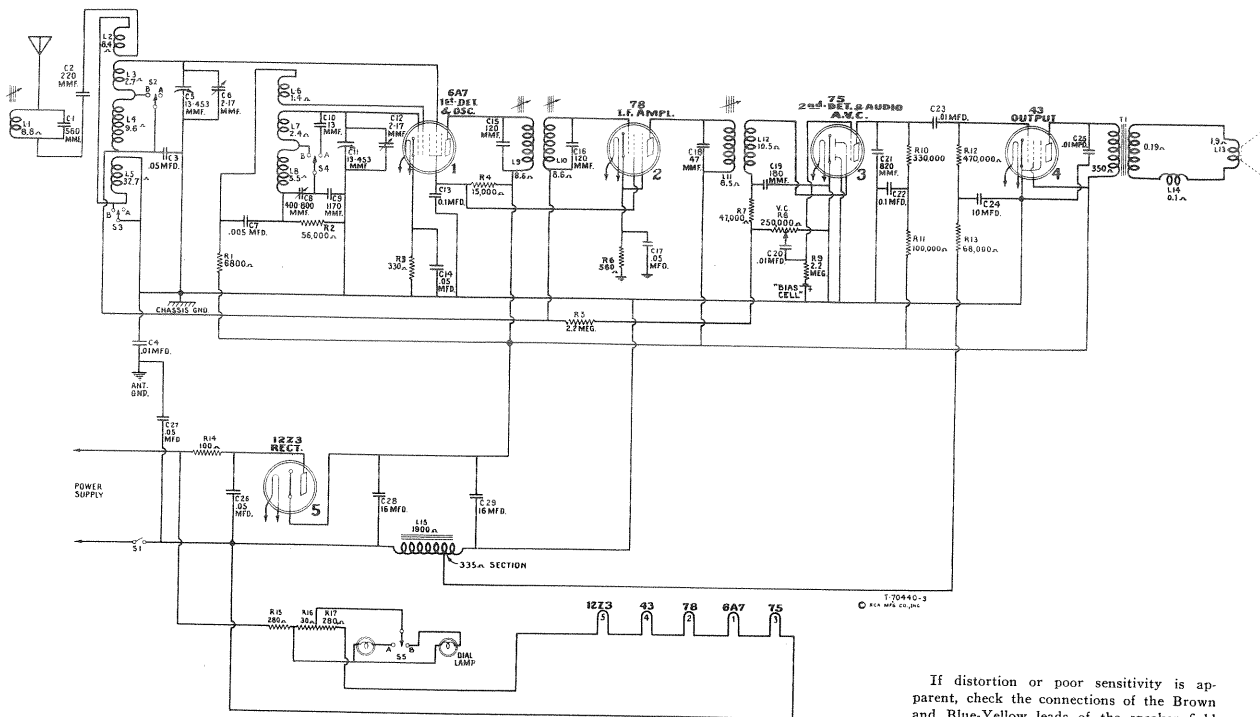
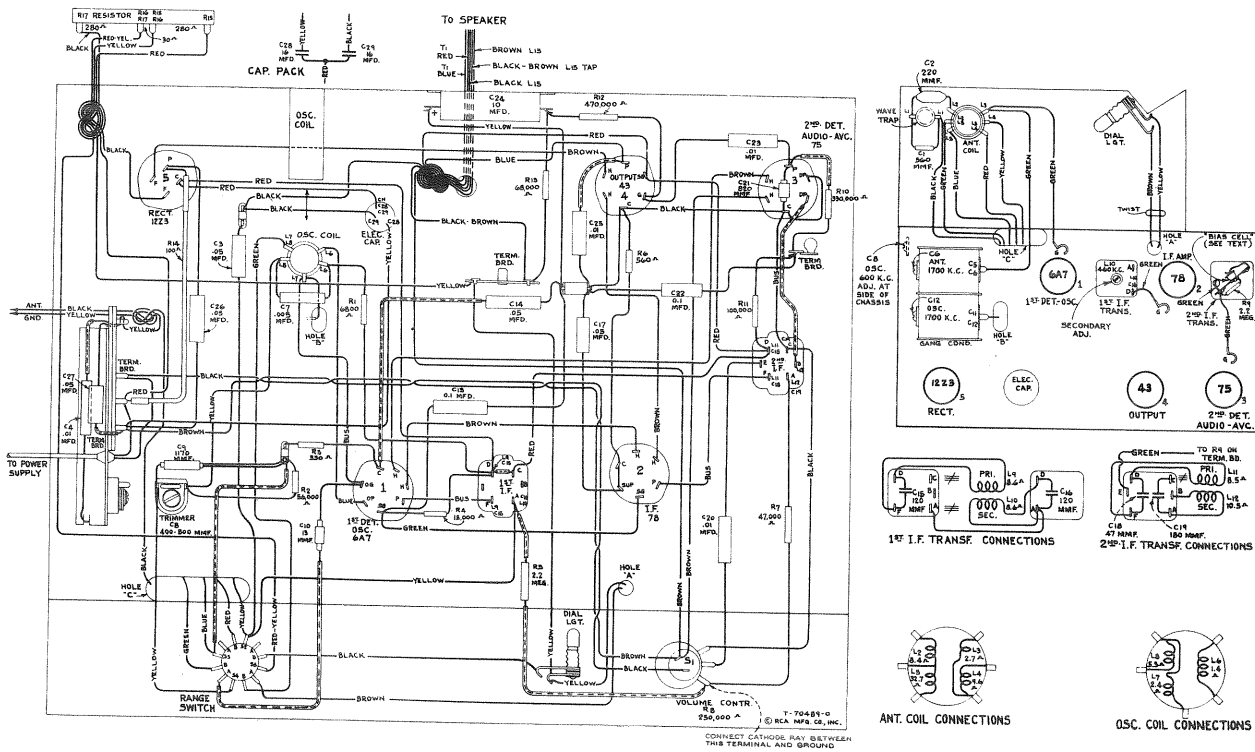

Figure 1—Schematic Circuit Diagram
Figure 2—Chassis Wiring Diagram, Radiotron, Coil, and Trimmer Locations
The audio frequency component, mentioned under "Detection and A.V.C.," transferred to the control grid of the RCA-75, is amplified in the tube and then coupled to the control grid of the power output tube RCA-43 through capacitor C23. The output of the power amplifier is transformer coupled into the dynamic loudspeaker. A single "Bias Cell," see figures 1 and 2, is used for supplying bias voltage to the control grid of the RCA-75 tube.
The three adjustment screws (one on top and one on bottom of first i-f transformer and one on bottom of second i-f transformer) are located as shown by figures 2 and 6. Each circuit must be aligned to a basic frequency of 460 kc. To do this attach the output indicator across the loudspeaker voice coil or across the output transformer primary. Connect the output of the test oscillator through a .05 mfd. capacitor to the RCA-6A7 control grid, the ground of the test oscillator being connected to the receiver external yellow ground lead. Set the test oscillator to 460 kc. Place the range selector in "Short wave" position. Advance the receiver volume control to its full-on position and adjust the receiver tuning control to a point within its range where no interference is encountered either from local broadcast stations or heterodyne oscillator. Increase the output of the test oscillator until a slight indication is apparent on the output indicator.
**CAUTION:** The "Bias Cell," see figures 1 and 2, should be carefully removed before any resistance measurements are made. Do not allow the spring contact clips to short-circuit "Bias Cell" during its removal or insertion.
The resistance values shown between Radiotron socket contacts, grid caps, resistors, terminals, and receiver chassis ground, on figure 5 have been carefully selected so as to facilitate a rapid check of the circuit for defective parts, bad joints, etc. The use of this diagram in conjunction with the Schematic Circuit Diagram, figure 1, and the Chassis Wiring Diagram, figure 2, will permit the location of certain troubles which would otherwise be difficult
**CAUTION:** The voltage between the RCA-75 control grid and ground should never be measured. All ordinary meters will paralyze the "Bias Cell," see figures 1 and 2, in this circuit for a period of approximately one to two hours. To check "Bias Cell," connect 0-1 M.A. milliammeter as shown on figure 6. A satisfactory cell should give a steady reading on the meter between 0.3 and 0.65 M.A. when used with a good RCA-75 tube.